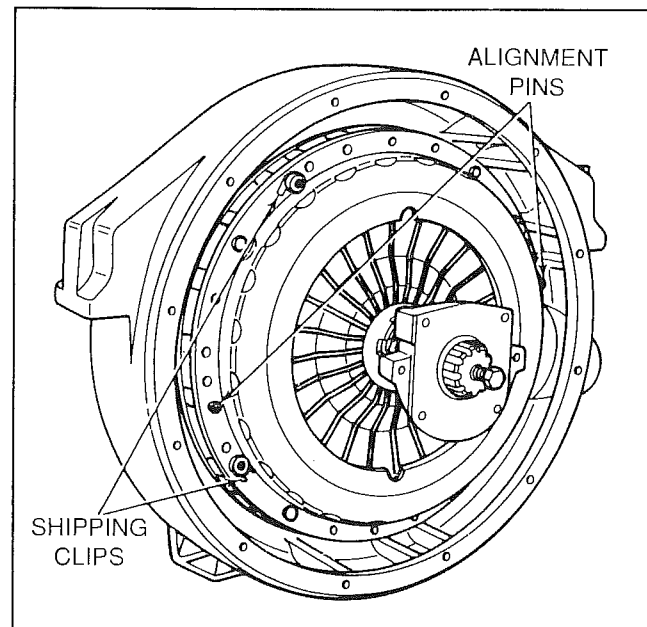

Figure 7-4. Alignment Pins Installed
16. Install two alignment pins in the capscrew holes (Fig. 7-4).